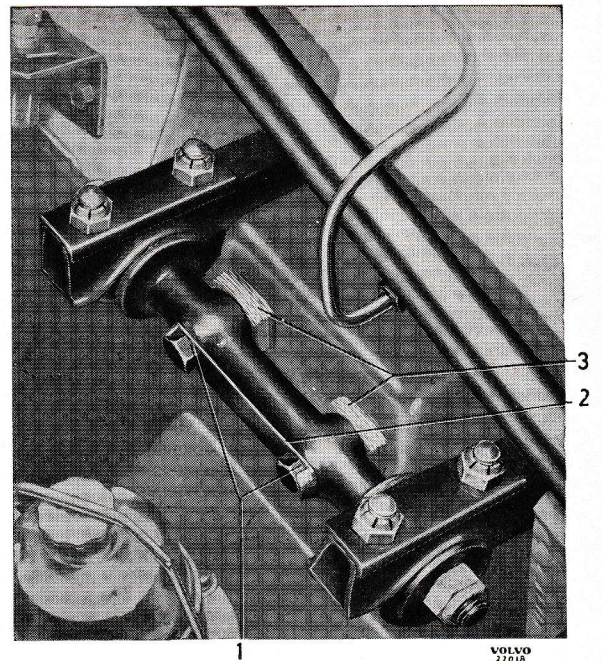

Fig. 42. Adjusting caster and camber.
When the caster is different on the right and left sides, adjustment is done at the upper control arm shaft, see Fig. 42. Slacken the attaching bolts (1) so that the adjusting shims can be lifted up. These are stocked in thicknesses of 0.15; 0.5; 1; 3 and 6 mm (0.006; 0.012; 0.039; 0.118 and 0.236"). The extent to which these alter the caster is shown in the diagram, Fig. 43. The same alteration is obtained if a shim is removed from one of the attaching bolts or if it is added to the other. In both cases the camber is altered slightly and the procedure will therefore partly depend on how much it is required to alter this. When the camber is correct, caster is adjusted by removing shims. Always tighten the attaching bolts to a torque of 4.8—5.5 kgm (35—40 lb.ft.) before making a new measurement. When the correct caster has been obtained, the attaching bolts are locked with the locking plate (2).
The camber should be 0 to  $+1/2^\circ$  and is adjusted by means of shims (3, Fig. 42) at the upper control arm shaft. When doing this, the attaching bolts (1) are slackened slightly. The number of shims is increased or reduced depending on the angular fault. After adjusting, the attaching bolts are tightened to a torque of